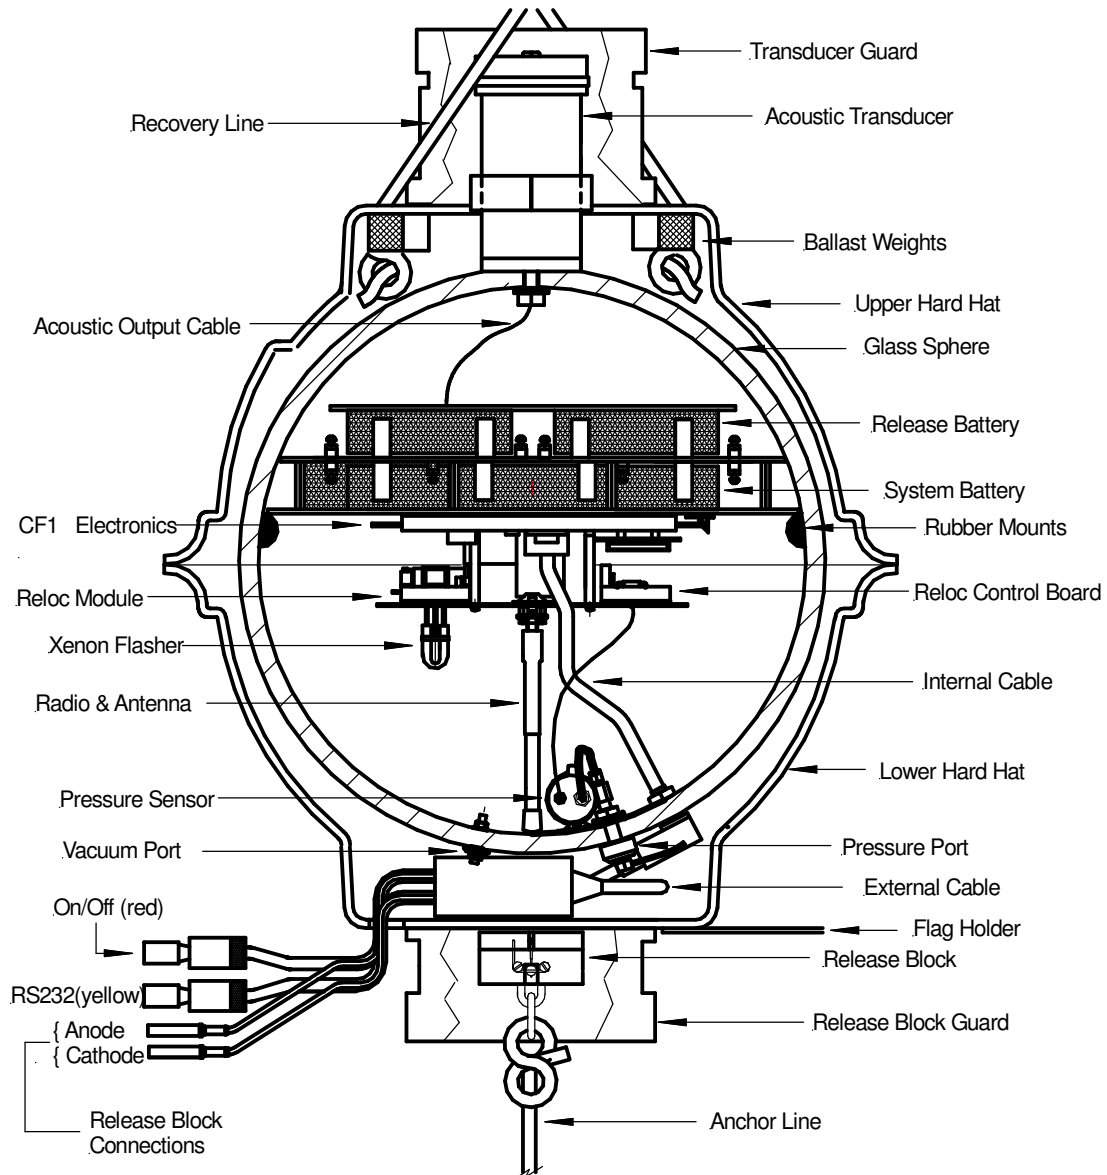

Figure 1-1 IES Model 6.2 Parts Location Diagram
*Note: As you read the following sections, keep in mind the parts location drawing (Figure 1-1 ) of Chapter 1.7. This diagram shows the location of many of the IES elements referred to in the text.*